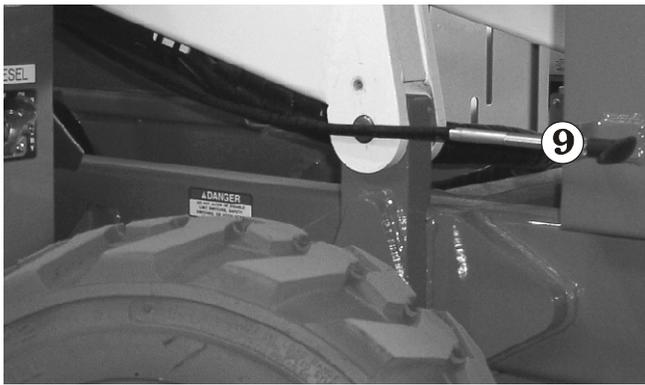

Figure 7.28 - Emergency Lowering, Units Fitted With 24V DC Option
Operate the emergency lower by pulling on the cable ① (see Figure 7.28) located at the front of the chassis. When the platform is fully lowered release the cable.
On machines fitted with the 24V DC motor option the emergency bleed down valve 'pull handle' is located on the side of the battery compartment (see Figure 7.28)